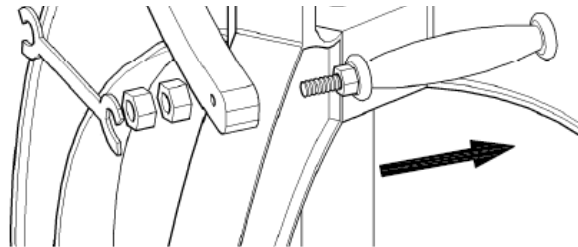

Fig.1
1. The table is shipped with the handle assembled on the inside of table base for ease of packaging. You will need to disassemble the handle and re-assemble it as shown below. Tighten the outside nut using the wrench (C). See **Fig. 1 and 2.**